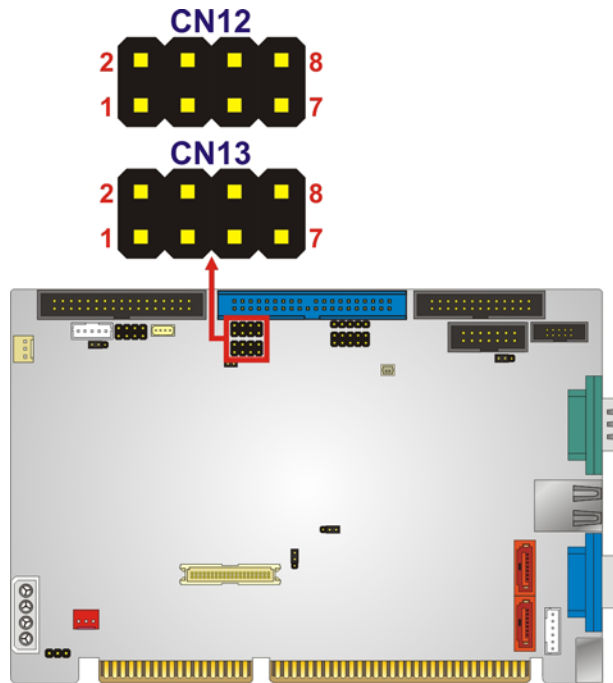

Figure 3-19: USB Connector Pinout Locations
CN Location:	See Figure 3-19
- CN Location:** See Figure 3-19